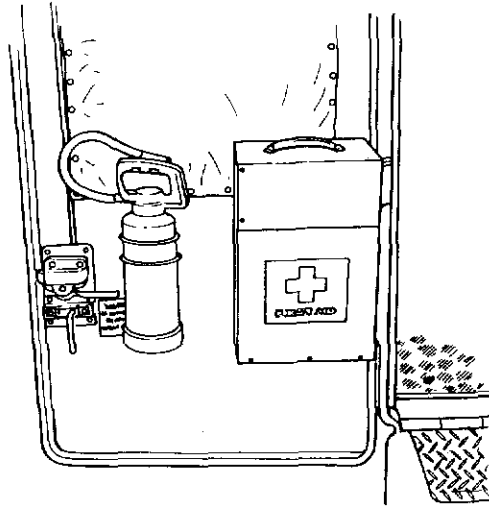

Figure 4-11 Fire extinguisher location and alternative position of first aid kit
A 3.0 kg BCF fire extinguisher is secured, via a mounting bracket to the rear door (see Fig. 4-11).
425. Power outlet sockets — 240 volt 15 amp (Fig. 4-11 item 2)